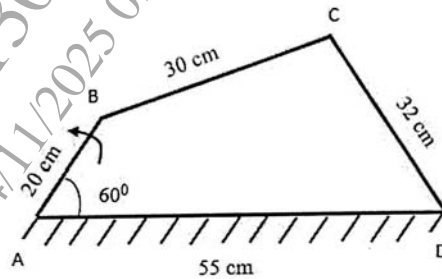

Fig. 2. Configuration Diagram
- b)** In a four bar chain as shown in fig 2. AB 20 cm, BC = 30 cm, CD = 32 cm and AD = 55 cm. Crank AB rotates at a uniform speed of 200 rpm in anticlockwise direction. When the crank AB has turned  $60^\circ$ , locate all the instantaneous centers and find the angular velocity of link BC. [13]